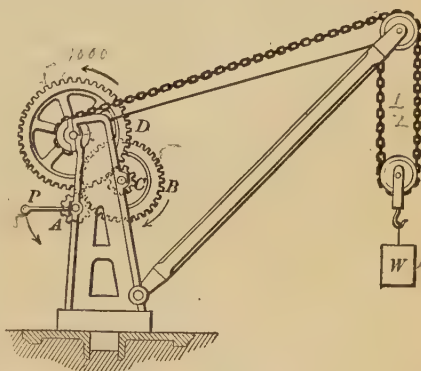

FIG. 37. — Builder's crane.
into its elements, let us, as it were, dissect a crane or derrick (Fig. 37) such as is used in unloading freight cars, or in hoisting building material into place.
11. In the crane shown in figure 37, the weight W is 5 tons, and the radii of the three small cogwheels are supposed to be equal and each $\frac{1}{3}$ the radius of the crank P and of the wheels B and D , which are also equal. What is the mechanical advantage of the whole machine, and what force, neglecting friction, must be applied at P ?